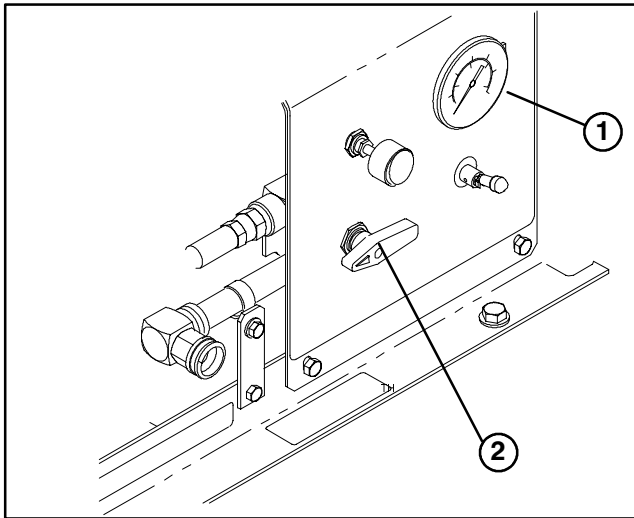

Figure 1
2. Disconnect hose secured to pressure gauge (Fig.1).